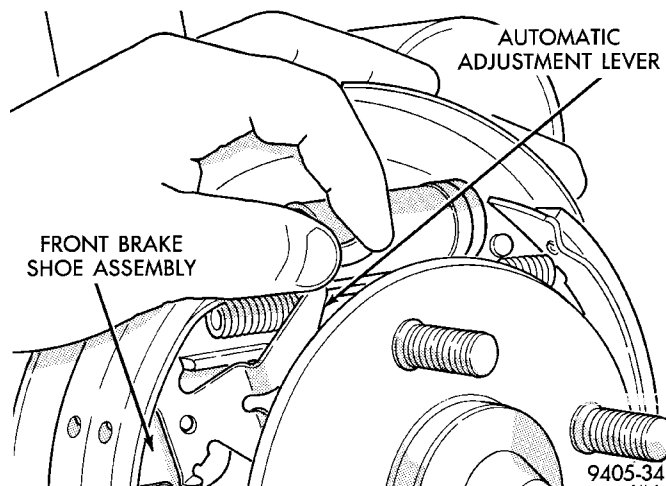

Fig. 82 Automatic Adjustment Lever
(6) Remove the automatic adjustment lever (Fig. 82) from the brake shoe.
(8) Install the automatic adjustment lever, on the front brake shoe of the rear wheel brake assembly (Fig. 82).